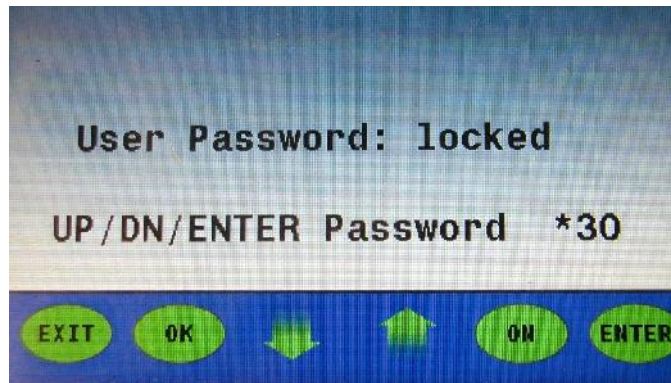

Figure 12
- Press “ENTER” and a (*) will be loaded into the first digit and the second digit “0” will start to blink **(Figure 12)**